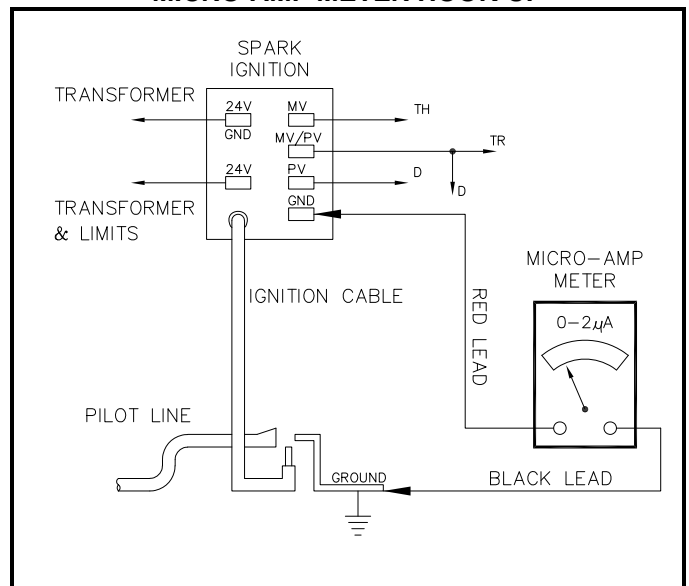

Figure 2-6
7. Connect micro-amp meter as shown in Figure 2-6 and check micro-amps. A minimum of two micro-amps is required for proper operation.